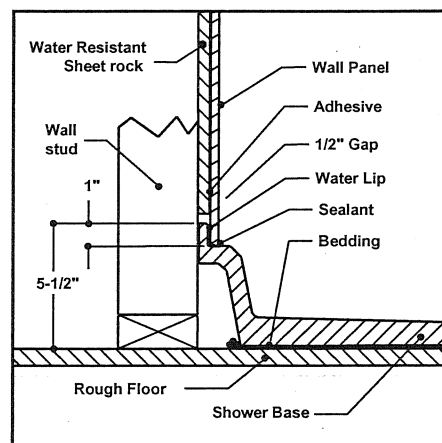

Fig. 1
**TERE-STONE®** Shower Bases are designed to be installed directly on a rough floor and against the wall studs. **TERE-STONE®** Wall Panels are to be installed over water resistant sheetrock with adhesive provided (See Fig. 1).
Step 6. Install minimum 1/2" water-resistant sheetrock, leaving a 1/2" gap above the "Integral Water Seal Lip" (See Fig. 1) to prevent water damage to the wall should the sealant fail. If the **TERE-STONE**® wall panels are a translucent color, prime the sheetrock to achieve a uniform white color. If walls are painted or primed allow sufficient time for the paint /primer to cure completely before bonding the panels.